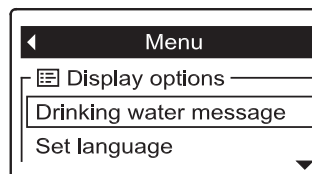

FIG. 111
2. Press the remote's SELECT (○) button to display the drinking water status menu (See Figure 111).
3. If necessary, press the DOWN (▼) button to scroll through the menu options until **Drinking water message** is highlighted in a box (See Figure 111).
6. Press the SELECT (○) button. The display will go back to the menu shown in Figure 111.